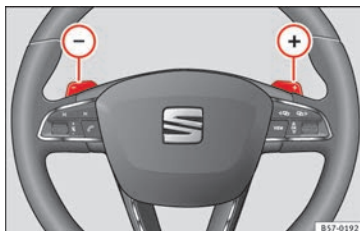

Fig. 200 Steering wheel: automatic gearbox levers
- Press the gearshift paddle  to select a higher gear » **Fig. 200**.